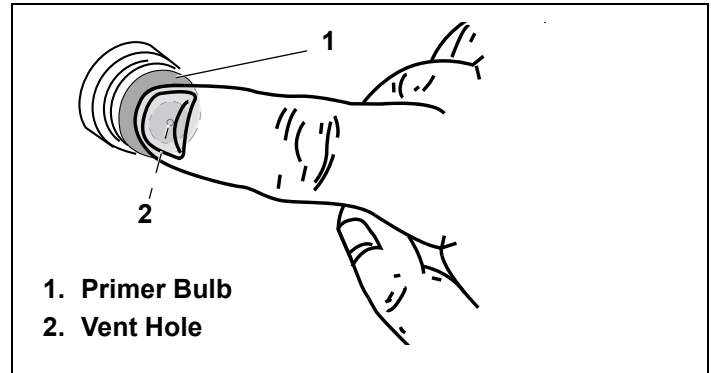

Figure 22. Pressing Primer Bulb
3. When starting a cold engine, push primer bulb firmly 3 times, allowing primer bulb to return completely to original position between pushes. See Figure 22.
3. When starting a cold engine, push primer bulb firmly 3 times, allowing primer bulb to return completely to original position between pushes. See Figure 22 on page 11. Afterward, continue reading instructions below.